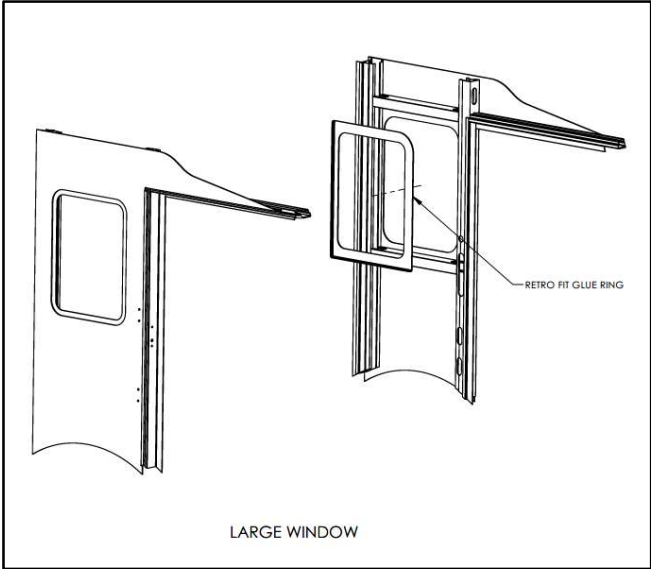

Figure 1. Large Window ring placement.
- b. See **Figures 1 & 2** for placement of retrofit ring with Lord adhesive.